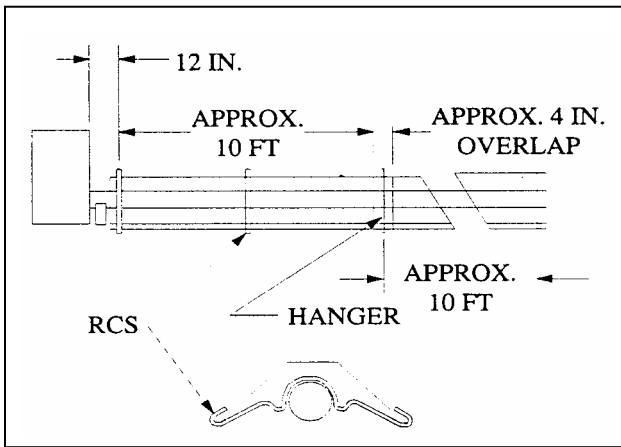
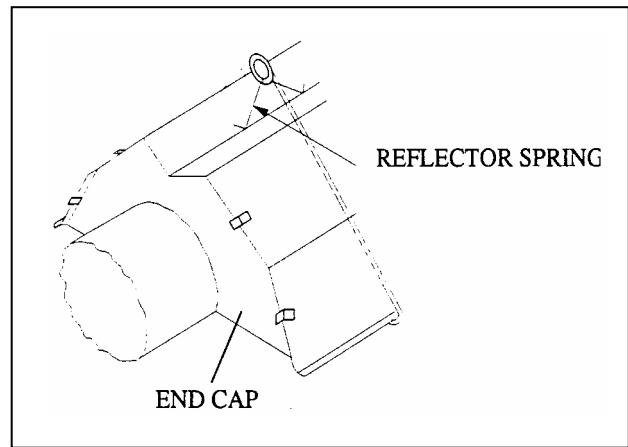

Figure 2-10
Figure 2-11
1. Install reflector center supports (RCS) as shown in figure 2-10.
2. Slide reflector through wire hangers and adjust the reflector positioning spring in the V-groove on top of the reflector as shown in Figure 2-11. Overlap reflectors 4 in. for support (see Figure 2-10).
4. Install reflector end caps at exposed ends of the reflector runs with clips (Figure 2-11).